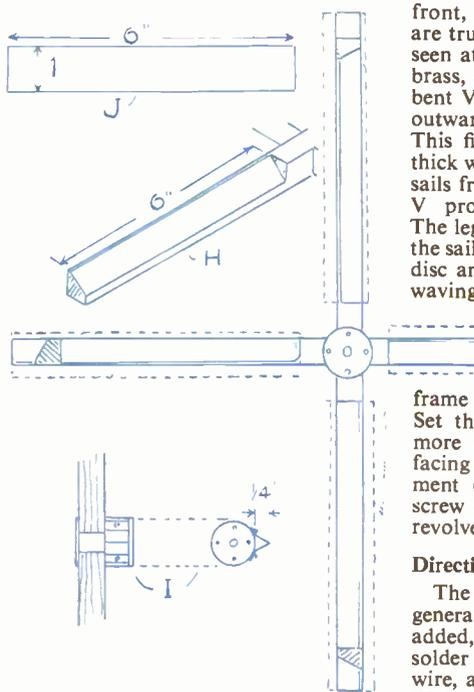

Fig. 5
Fig. 5 shows part of the sails with relative details. The frame is composed of two 14in. lengths of $\frac{1}{2}$ in. square section stripwood, fixed together at right angles with a halved joint. A portion of each arm is bevelled as at (H), the angle being 30 degrees. Note that the bevels all face in a clockwise direction.